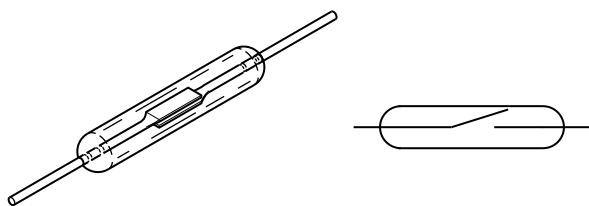

Fig. 7.1
- 7 Fig. 7.1 shows a reed switch and the symbol for the switch.